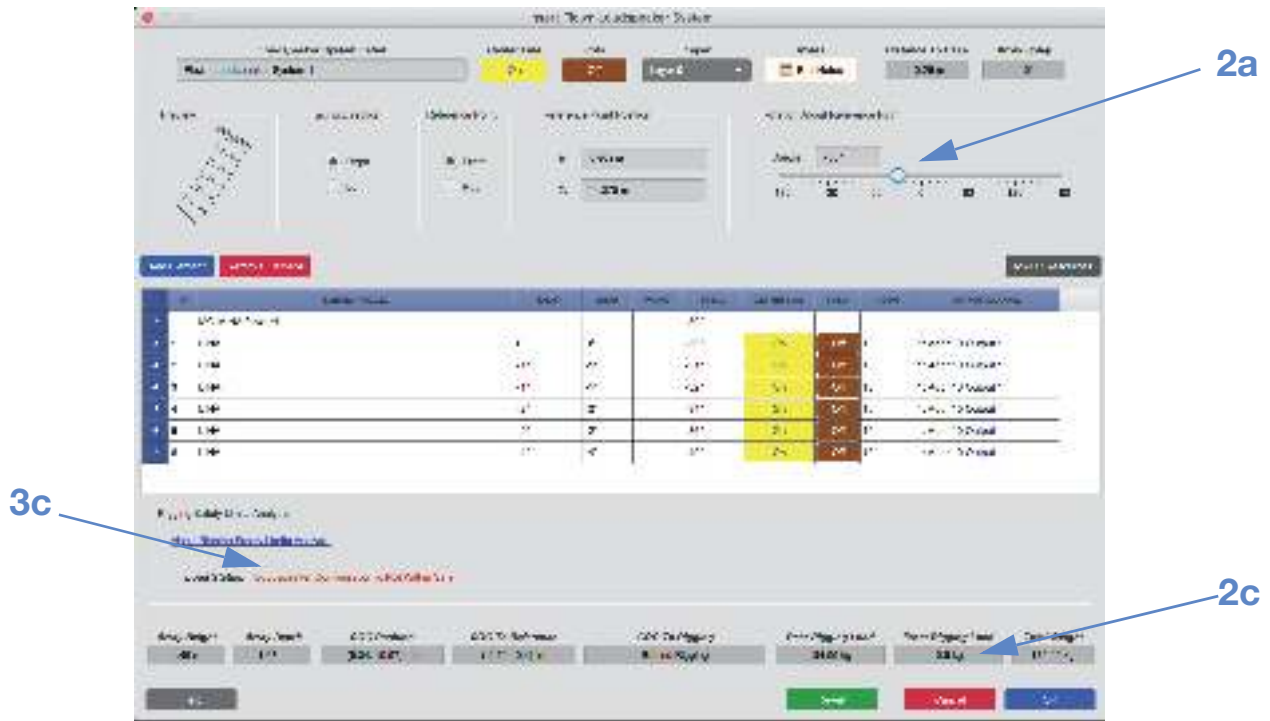
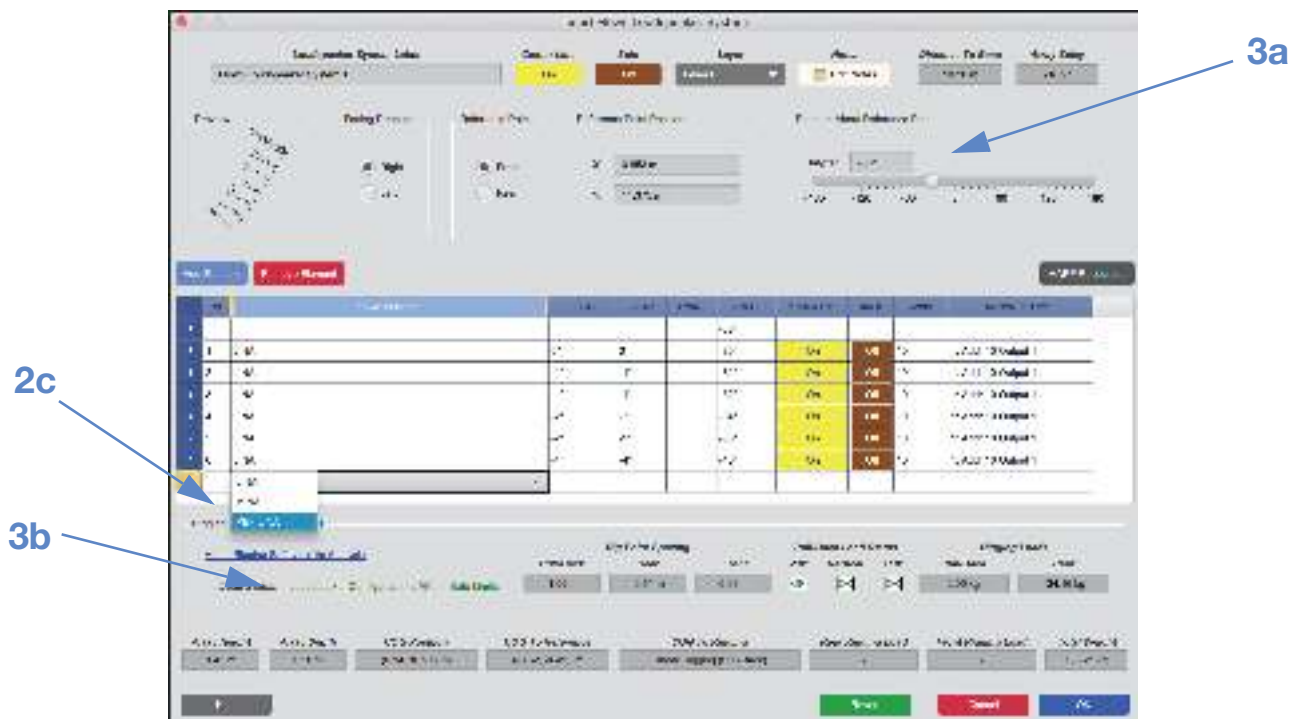

Figure 32: MAPP Display Window Shows Front Rigging Load Weight as a Negative Value—Pull-Back Frame Required
Figure 33: MAPP Display Window Shows Addition of Pull-Back Frame Brings Loudspeaker Configuration to Within Safe Limits
- a. In the **Rotation About Reference Point** section (Figure 32), enter the desired downtilt of the array (negative value is downtilt).
- c. If the Front Rigging Load weight is a negative value (Figure 32), pull-back hardware (PBF-LINA) is required to achieve the desired amount of downtilt (Figure 33). Make sure that the Front Rigging Load weight (the negative value) does not exceed the maximum load ratings for the pull-back hardware (see “PBF-LINA Pullback Frame Load Ratings” on page 38).
- a. Use the **Rotation About Reference Point** (Figure 33) to rotate the array to the desired amount of downtilt (negative angle value).